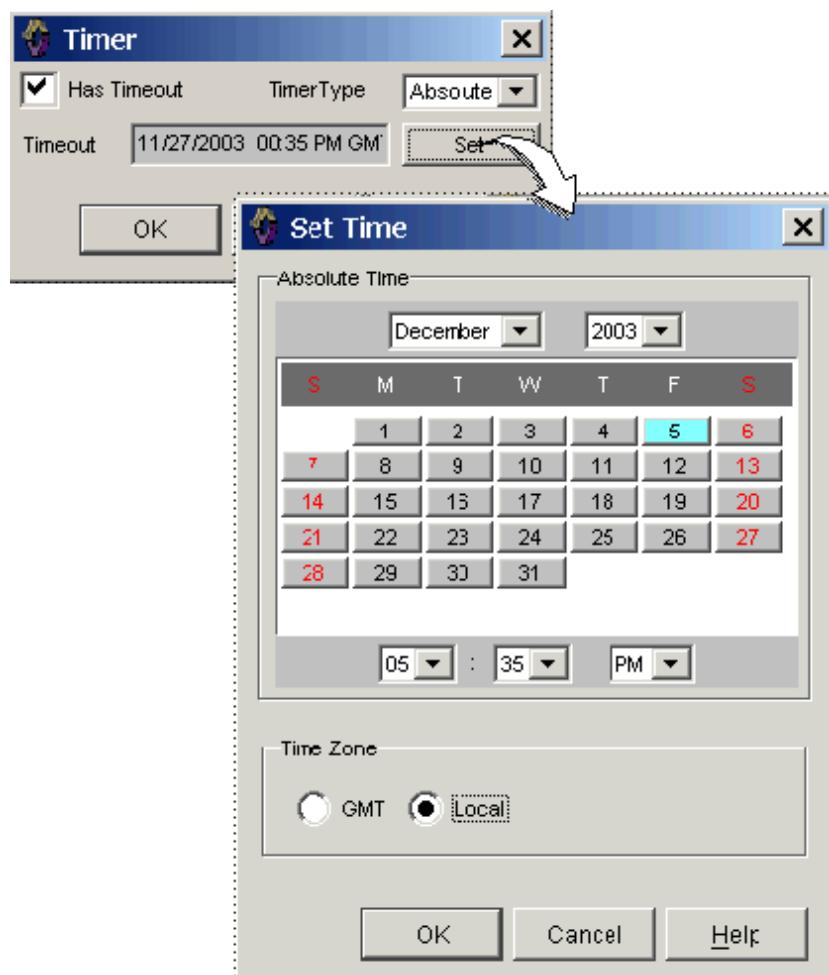

Figure 13-2 Setting an Absolute Timer
5. To set an absolute timer (see Figure 13-2):